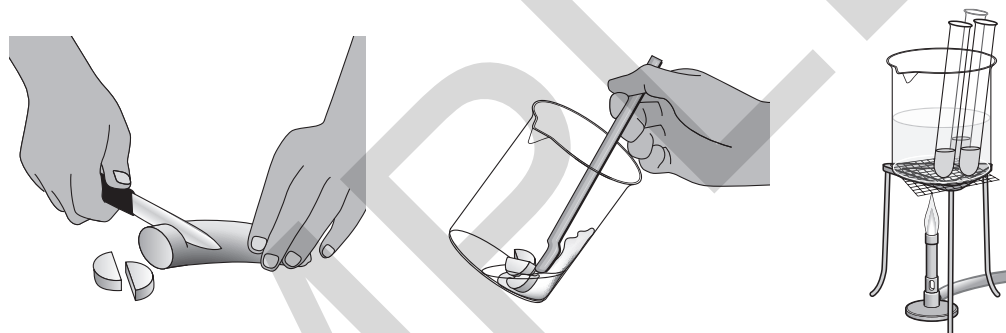

Figure 2.4
- 2 Use a knife and cut out a 1 cm³ piece of green, unripe banana (without the peel) and place it into a beaker (see Figure 2.4).